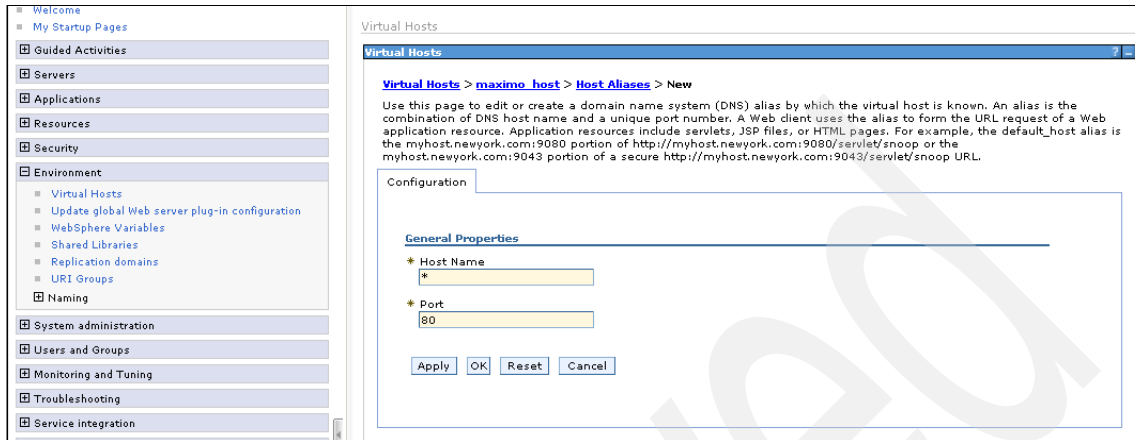

Figure A-15 HTTP port number
17. Enter * (asterisk) in the Host Name field and type the HTTP port number, by default 80 (see Figure A-15).